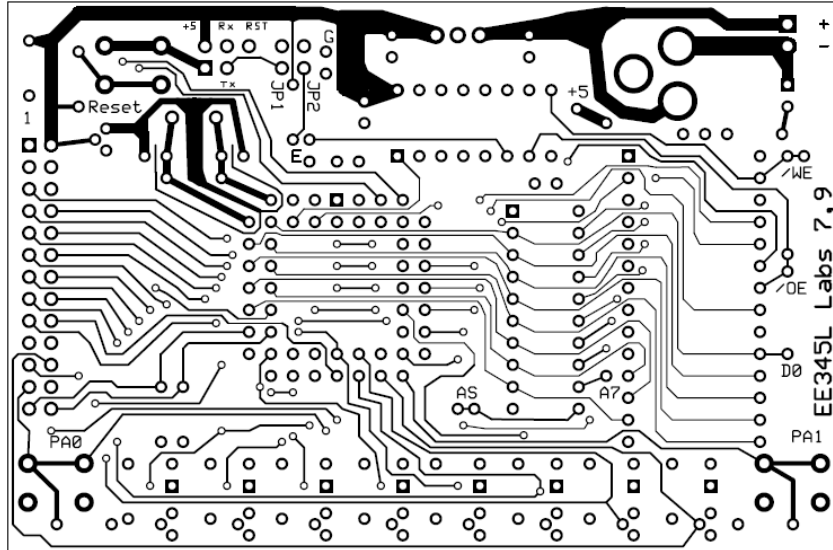
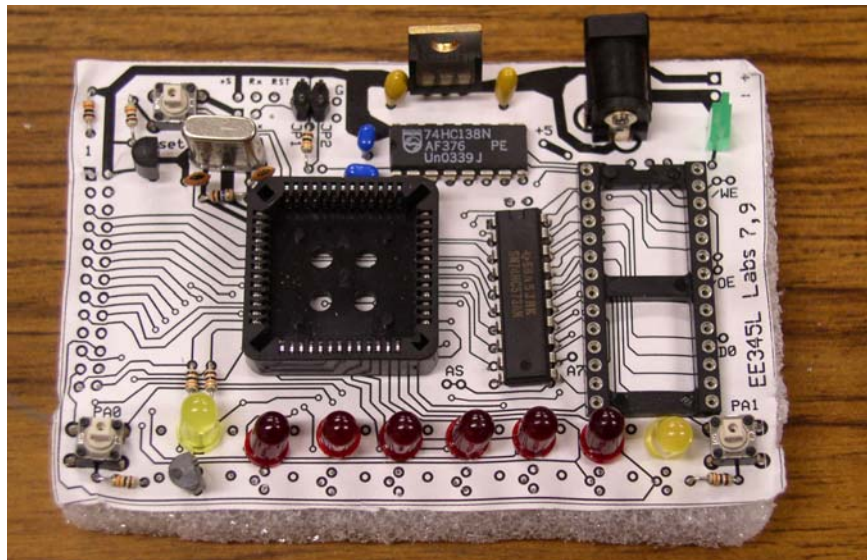
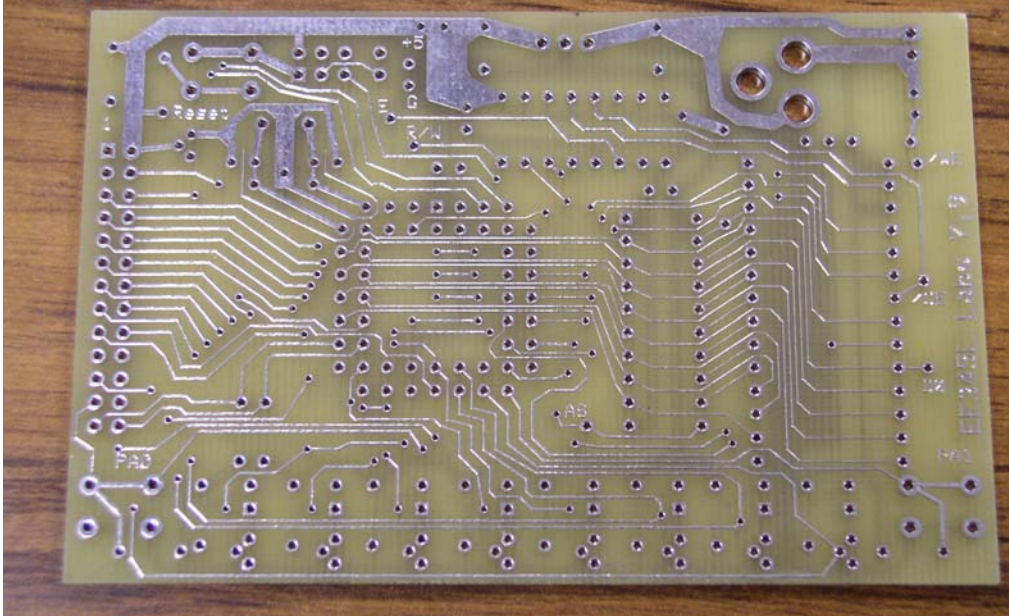

Figure 8.1. Example ExpressPCB printout of top copper layer (notice the test points for ground, power, E, AS, /WE, /OE, D0 and A7).
Figure 8.2. Example mockup of layout using Styrofoam.
Figure 8.3. Example PCB made by ExpressPCB (used in Lab 11).
You should print both sides of the PCB layout (without the mask). See Figure 8.1. Create a mirror image of the bottom layer and glue/attach the two pieces of paper to Styrofoam, cardboard, or wood. You will have to punch or drill holes in order to place components on this simulated “PCB”. Create a complete 3-D mockup of the system placing the actual components on this paper/cardboard “PCB”. See Figure 8.2. 3-D spacing will be critical if the system will be placed in a box. **ExpressPCB** will make three identical PC boards, one for each group of 2. See Figure 8.3.
- 16) Here are a few tips when things get tight. Notice in Figure 8.1 and 8.3 that two traces go between two 6811 pins. This was performed using 0.007 in traces and temporarily disabling snap to feature. For example, assume the 6811 pins are at y=1.30 and 1.40 inches. You can double-click one end of the 0.007 trace and manually set the y location to 1.34. Double click the other end and set it also to 1.34. For the second trace, double-click its ends and manual set their y location to 1.36. A second tip when things get crowded is to shrink the size of the vias. A via is a connection from top to bottom that will not be holding any physical component like a resistor or chip. The default size of the via is large and you can double click the via and reduce it to 0.0031 in via with 0.0014 in hole. It warns the via may be filled, but that is OK (do not reduce the size of any hole that will be accepting a physical component.)